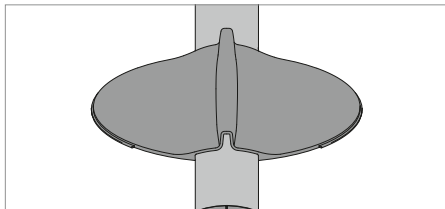

Fig. 3: Storing the magnifier cover.
- Clamp the magnifier cover to the light support, see Fig. 3.